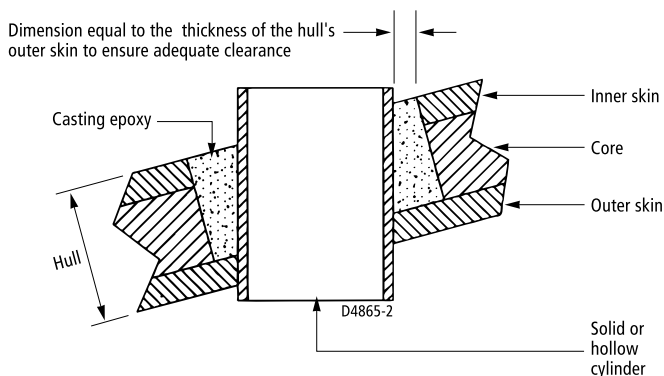

Figure 2-11: Preparing a Cored Fiberglass Hull
5. Coat a hollow or solid cylinder of the correct diameter with wax and tape it in place. Fill the gap between the cylinder and hull with casting epoxy. After the epoxy has set, remove the cylinder (see *Figure 2-11*).